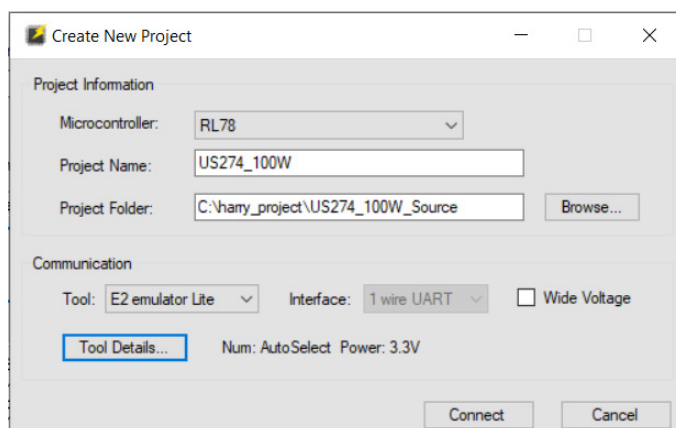

Figure 5. New Project Window
5. Create a "New Project". See Figure 5.